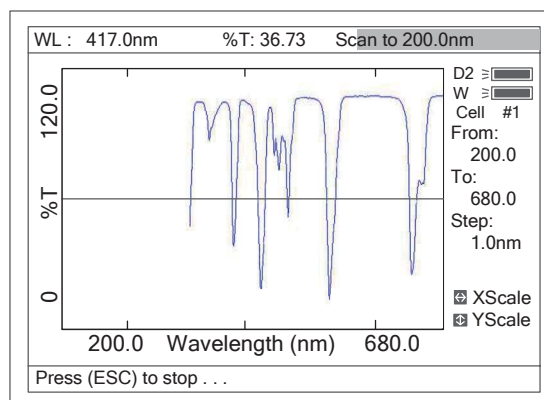
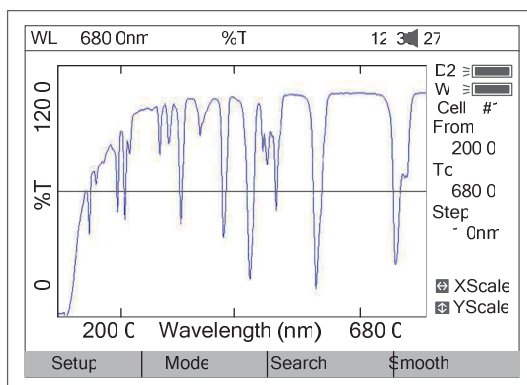

Fig 44
Fig 45
4. Pull the sample cuvette into the light path, press **【START/STOP】** to scan the sample (Fig 44) **【ESC】** to stop scanning. When scan has finished the beeper beeps 3 times (Fig 45).
Note: The report always is printed in Fig 45